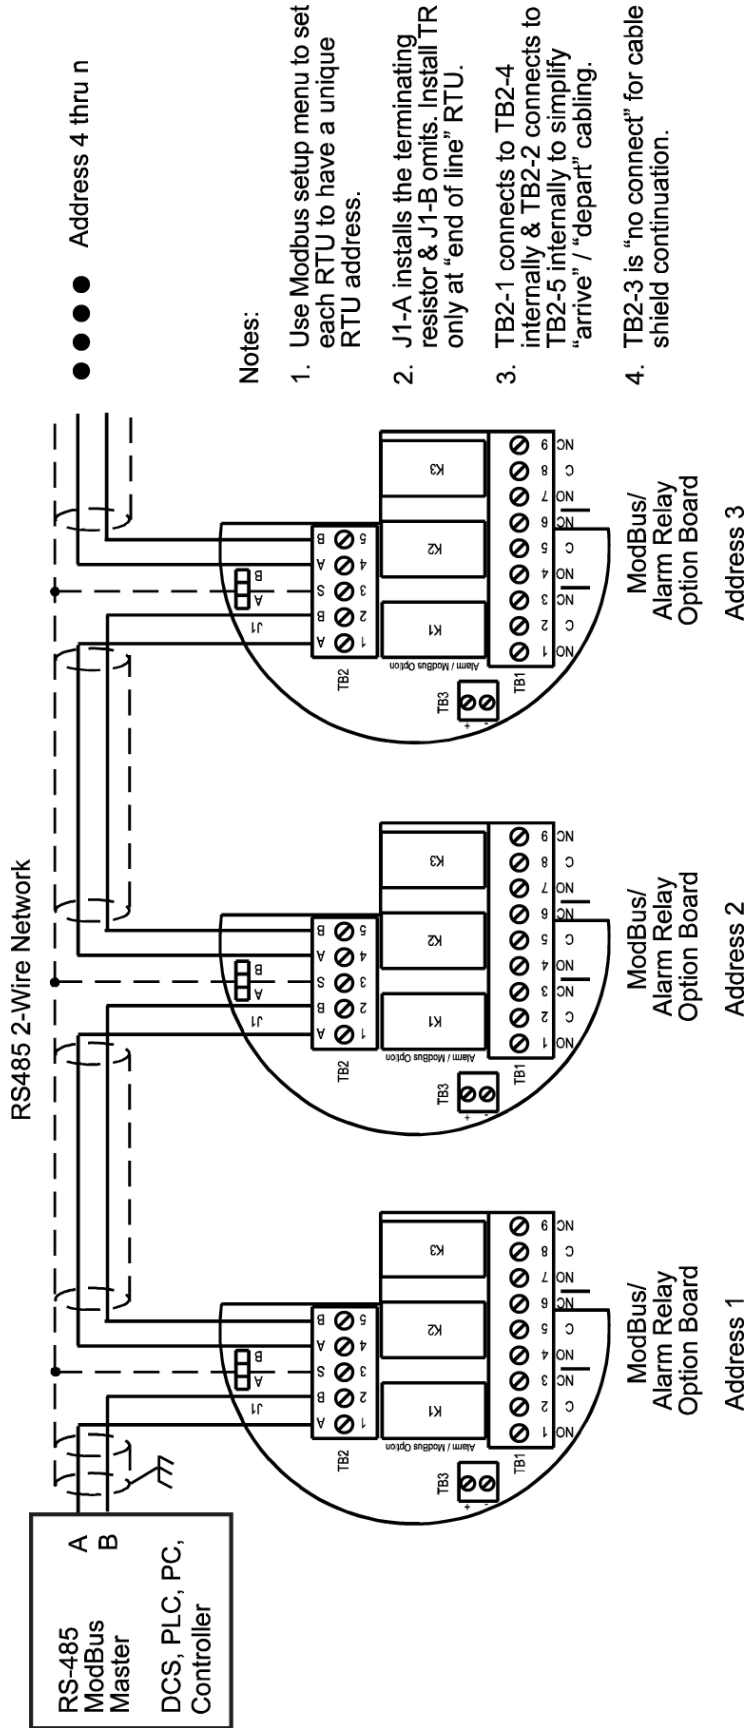

Figure 2-10: RS-485 Modbus Wiring
4.	RS-485 Modbus networks should be wired as shown in Figure 2-10. Each GDX-350 connected represents an RTU and must have a unique RTU address. RTU addresses are assigned in the Modbus setup menu described in Section 5.14 on page 44.